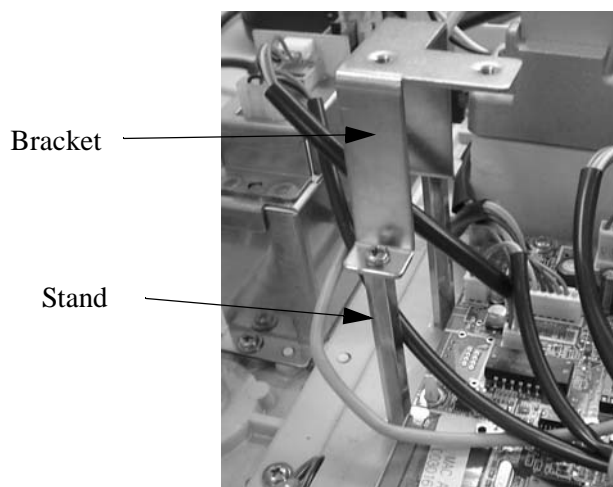

Figure 2. Front Support Bracket and 7mm Standoffs
11. Remove (2) Phillips screws from front support bracket. Remove (2) 7mm standoffs (see Figure 2)
15. Install front support bracket using (2) Phillips screws on to (2) 7mm standoffs (see Figure 2)